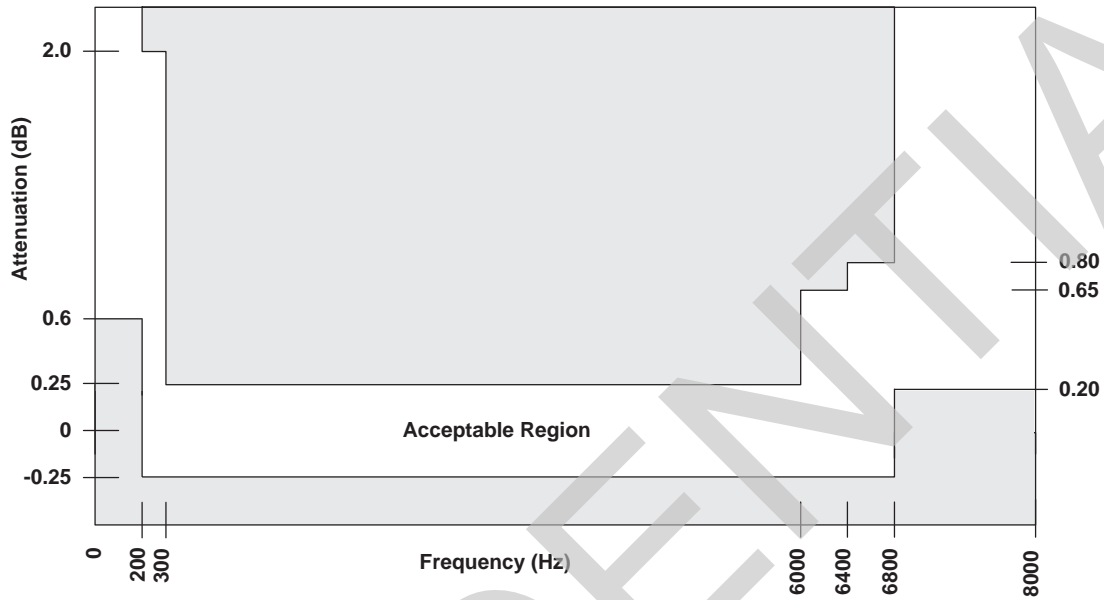
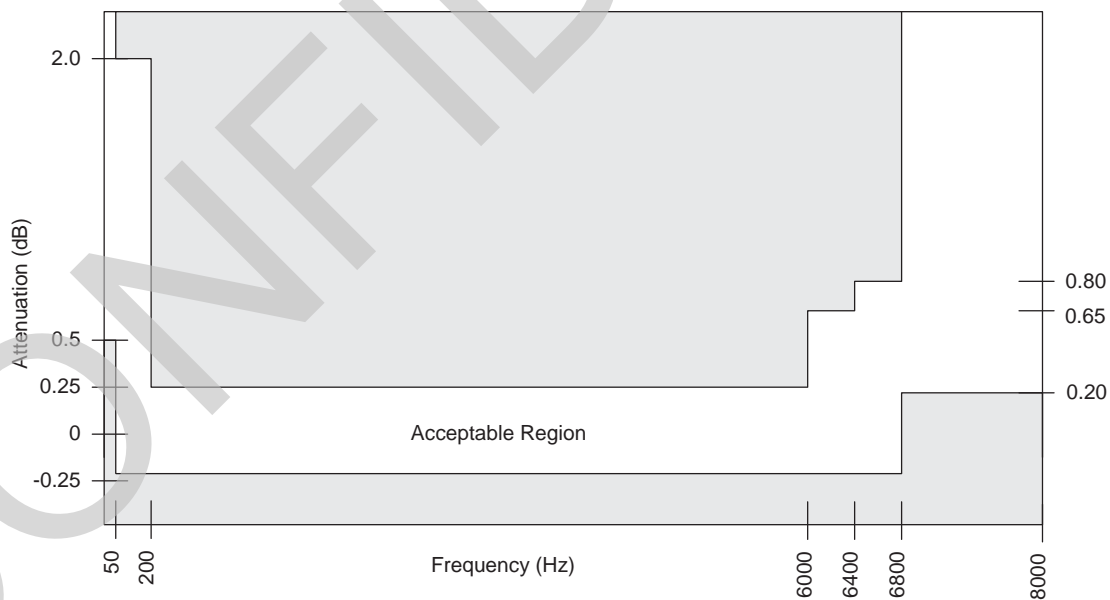

Figure 28 - Transmit (A to D) Path Attenuation vs. Frequency - (with High-Pass Filter Enabled)
Figure 29 - Receive (D to A) Path Attenuation vs. Frequency
3. See Figure 28. "Transmit \(A to D\) Path Attenuation vs. Frequency - \(with High-Pass Filter Enabled\)" on page 45 and Figure 29. "Receive \(D to A\) Path Attenuation vs. Frequency" on page 45.
The signal attenuation in either path is nominally independent of the frequency. The deviations from nominal attenuation will stay within the limits shown in Figure 28 and Figure 29. The reference frequency is 1014 Hz and the signal level is -10 dBm0.